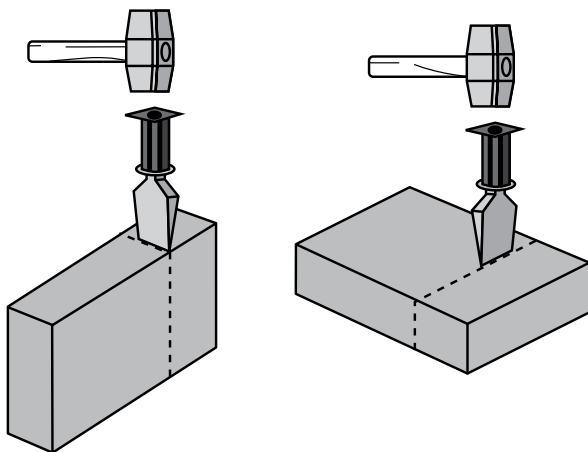

Figure 38. Score wall or paver units first to achieve uniform splitting.
**Hammer and chisel** - When working with the hammer and chisel, score the unit being split along an imaginary line running all the way around until the unit comes apart (Figure 38). Use even and consistently weighted blows for best results. When the unit is completely scored, use a heavy blow to finish the split. To split coping or wall units, be sure that the units are sitting level. Make sure there are no stones or pebbles underneath the unit. Split the double unit along the splitting groove provided. Always score the short sides first.